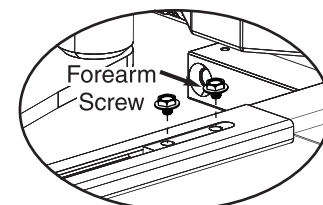

Figure 24
- While holding arm in position, secure forearm to adjusting tube with forearm screw. (Figure 24)